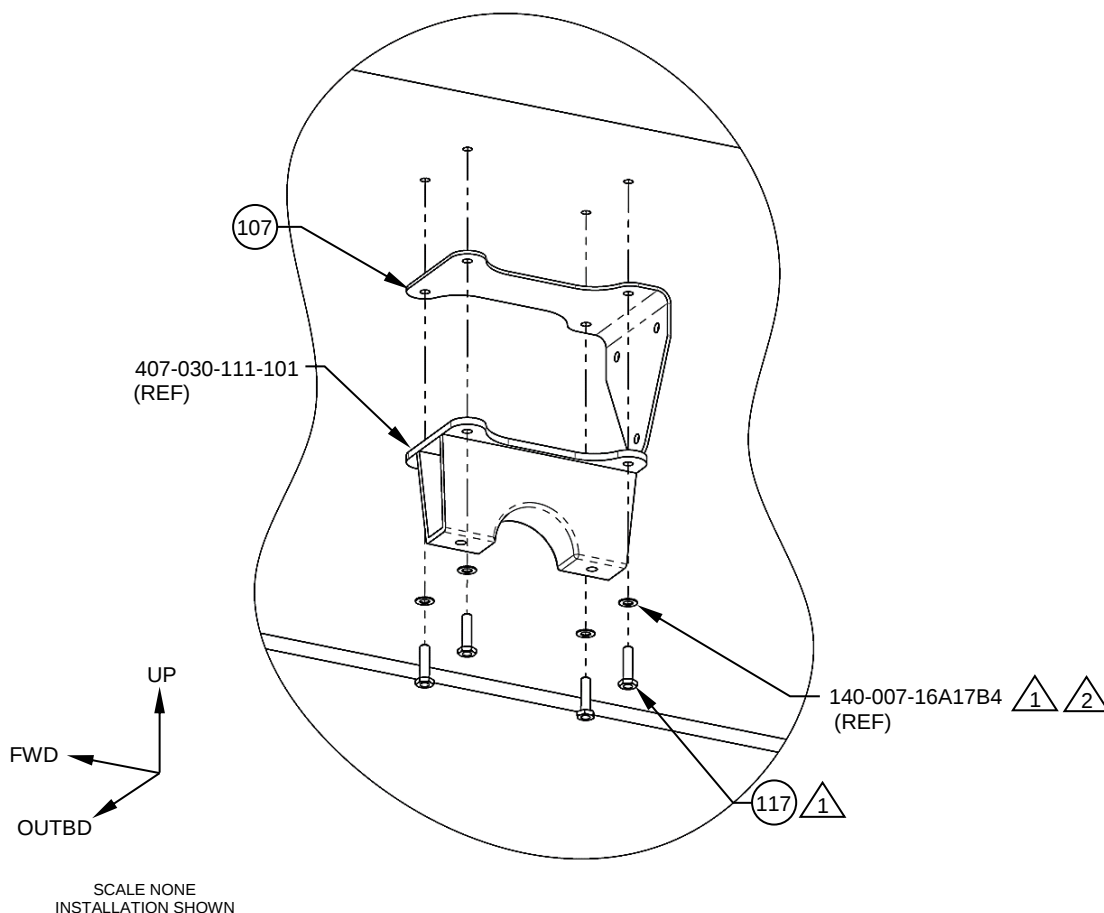

Figure 6
3. To remove the 2X FWD Attachment Bracket, (Item 107), remove 8x Bolt, Machine, (Item 117), and 8x Washer, (140-007-16A17B4). Reference Figure 6.